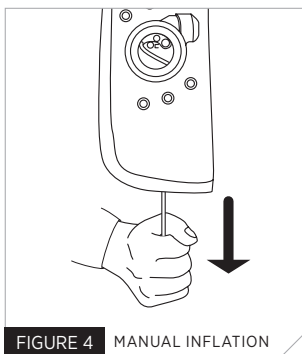

FIGURE 4 MANUAL INFLATION
1) Manual Inflation. Activate the inflation system by jerking firmly downward on the pull-tab (Fig. 4). The inflatable life jacket should fully inflate within five seconds.